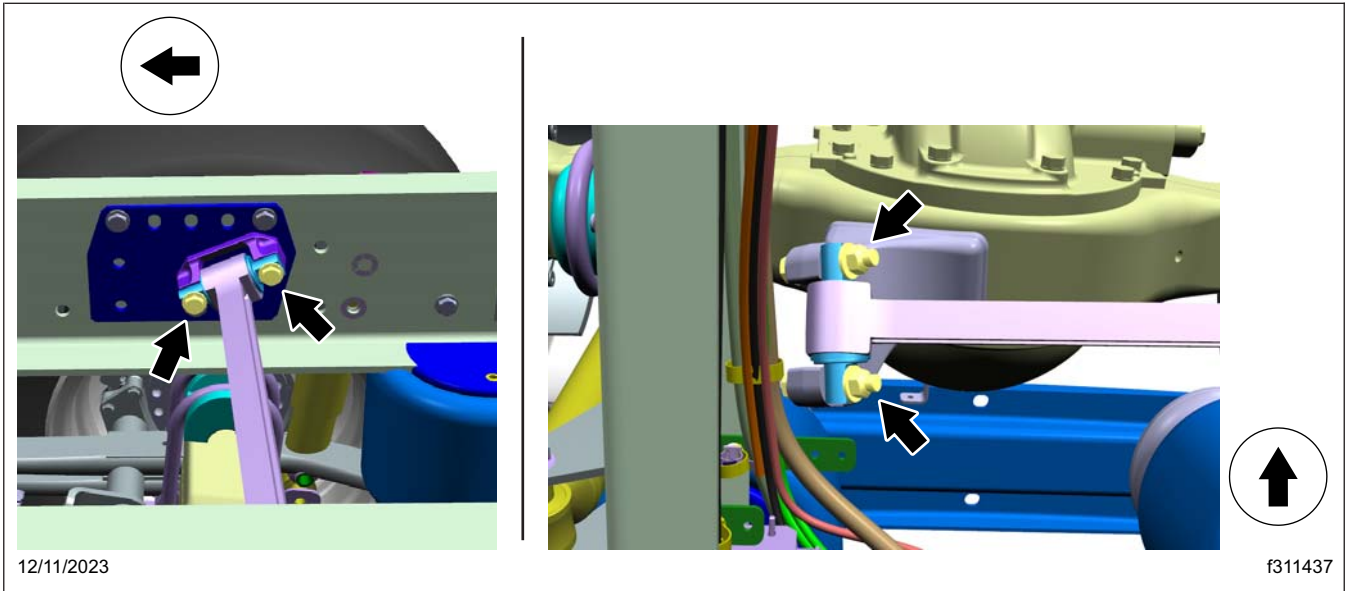
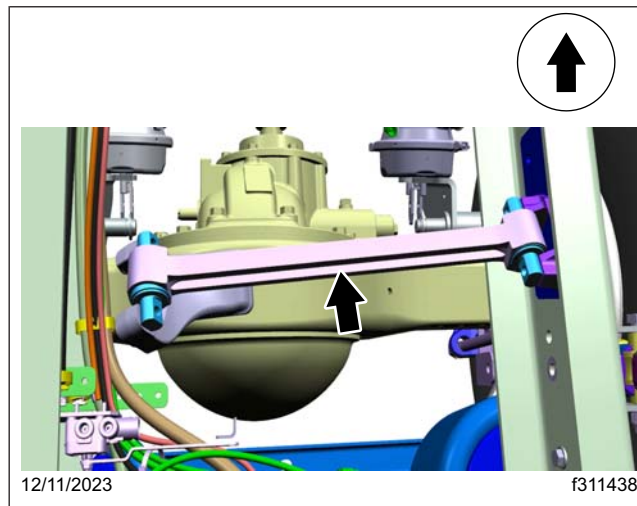

Fig. 4, Lateral Control Rod Mounting Fasteners
Fig. 5, Removal of the Lateral Control Rod
7. Remove the fasteners from both the ends of the lateral control rod, then remove the lateral control rod. See Fig. 4 and Fig. 5.